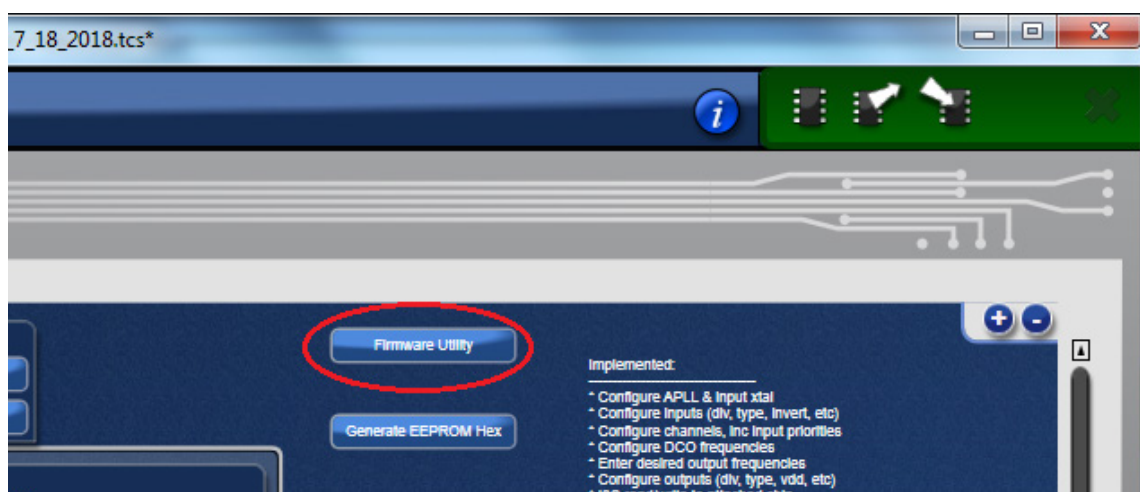

Figure 12. Reading Firmware Version
8. Once the connection is made, the firmware version can be read within the GUI. Click the "Firmware Utility" button to bring up the Firmware Utility window, as shown in Figure 12.